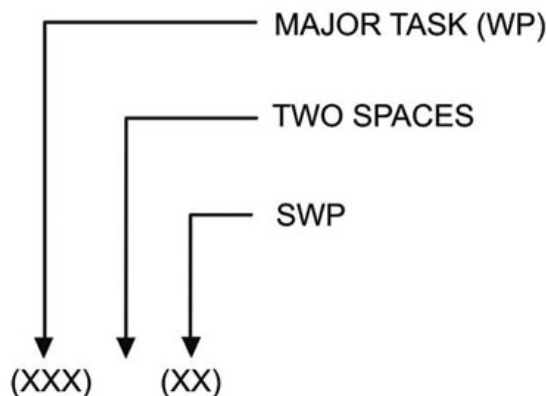

Figure 1-68. Manual structure.
The technical orders for the BPU vary from the standard TO that you may be use to. The TO is divided in to work packages (WP) and subordinate-work packages (SWP). The WP provides major task information and the SWP provide information for tasks with the WP. See figure 1-68 below on how it will appear.